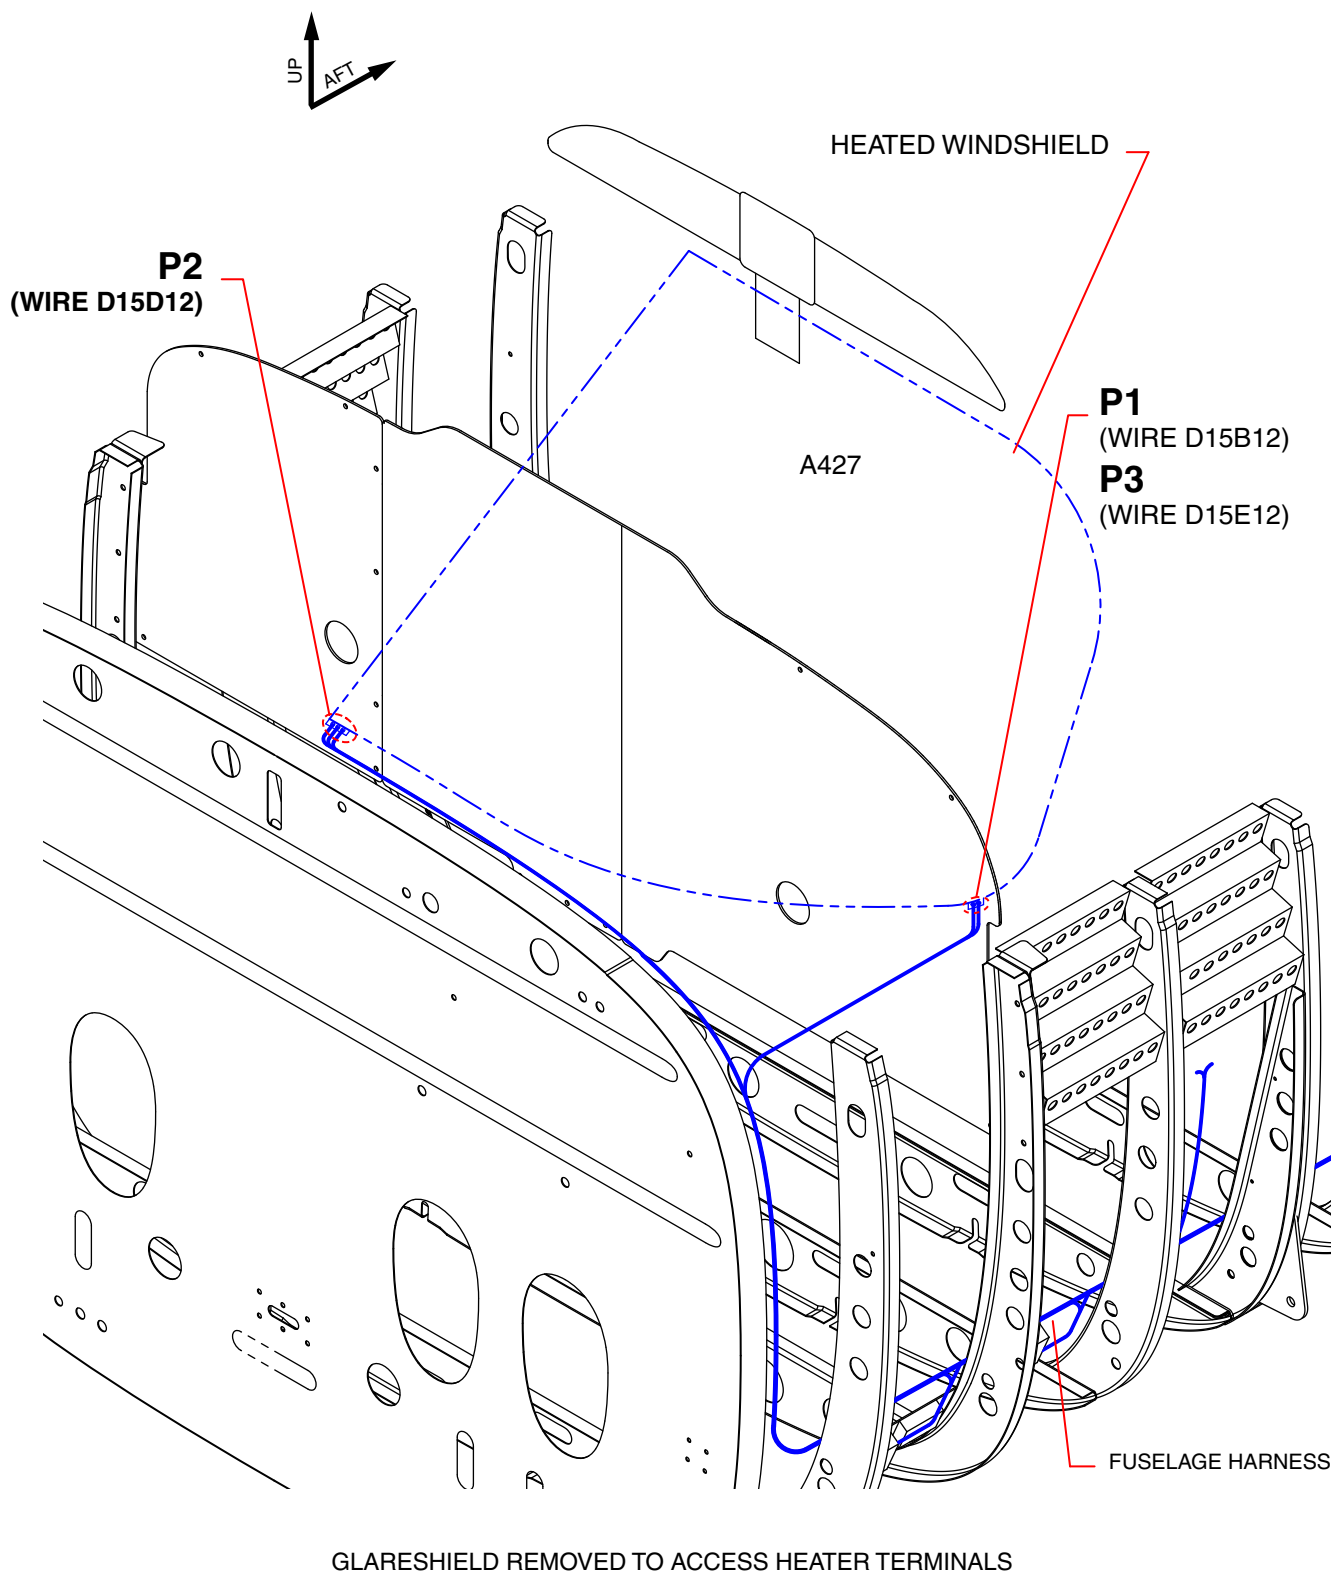

Figure 1
- a. Remove the glareshield to access the heated windshield terminal blocks. See Figure 1 for terminal block locations.